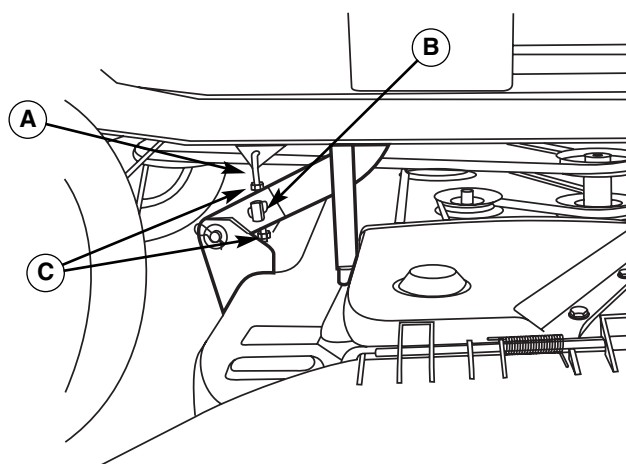

Figure 50. Side-to-Side Adjustment
6. See Figure 50. Side-to-side leveling is accomplished using the threaded rods (A) and trunnion (B) on the right and left rear sides of the mower deck. Loosen the jam nuts (C) and adjust the nuts up or down to adjust the mower level. When complete, tighten the jam nuts against the trunnion to lock the adjustment in place.